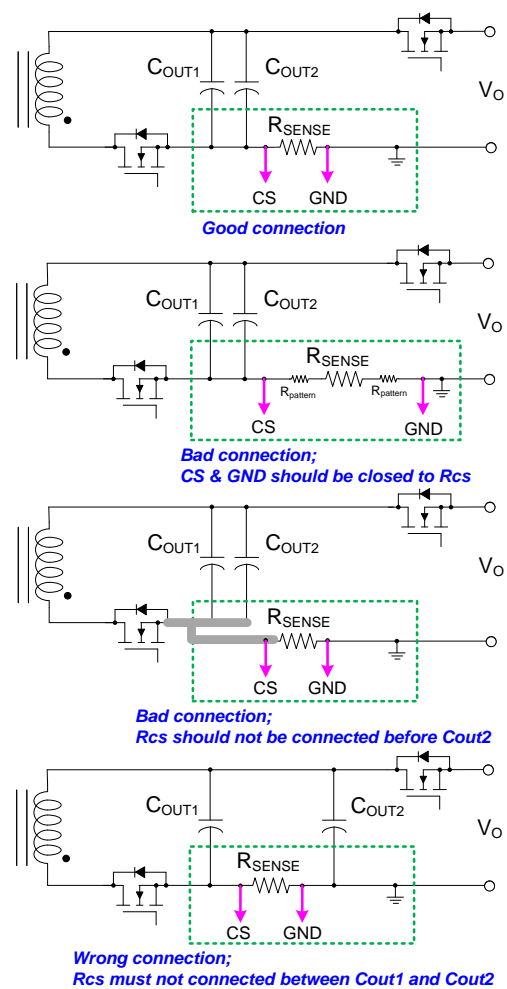

Figure 33 Examples of Sensing Resistor Connection
Printed Circuit Board (PCB) layout and design are very important for switching mode power supplies where the voltage and current change with high speed. Good PCB layout minimizes Electro-Magnetic Interference (EMI) and prevents excessive noise from surge or Electro-Static Discharging (ESD). As shown in Figure 33 C_{OUT1} and C_{OUT2} are the output capacitors; Q_2 is the secondary-side SR MOSFET. The following guidelines are recommended for layout designs.
- The sensed voltage via R_{CS} is very small value. In order to avoid offset voltage or avoid inducing switching noise on the sensed voltage, R_{CS} should be connected between ground of C_{OUT2} and power ground. And R_{CS} should be positioned as close as possible to CS pin and GND pin. Refer to Figure 33.